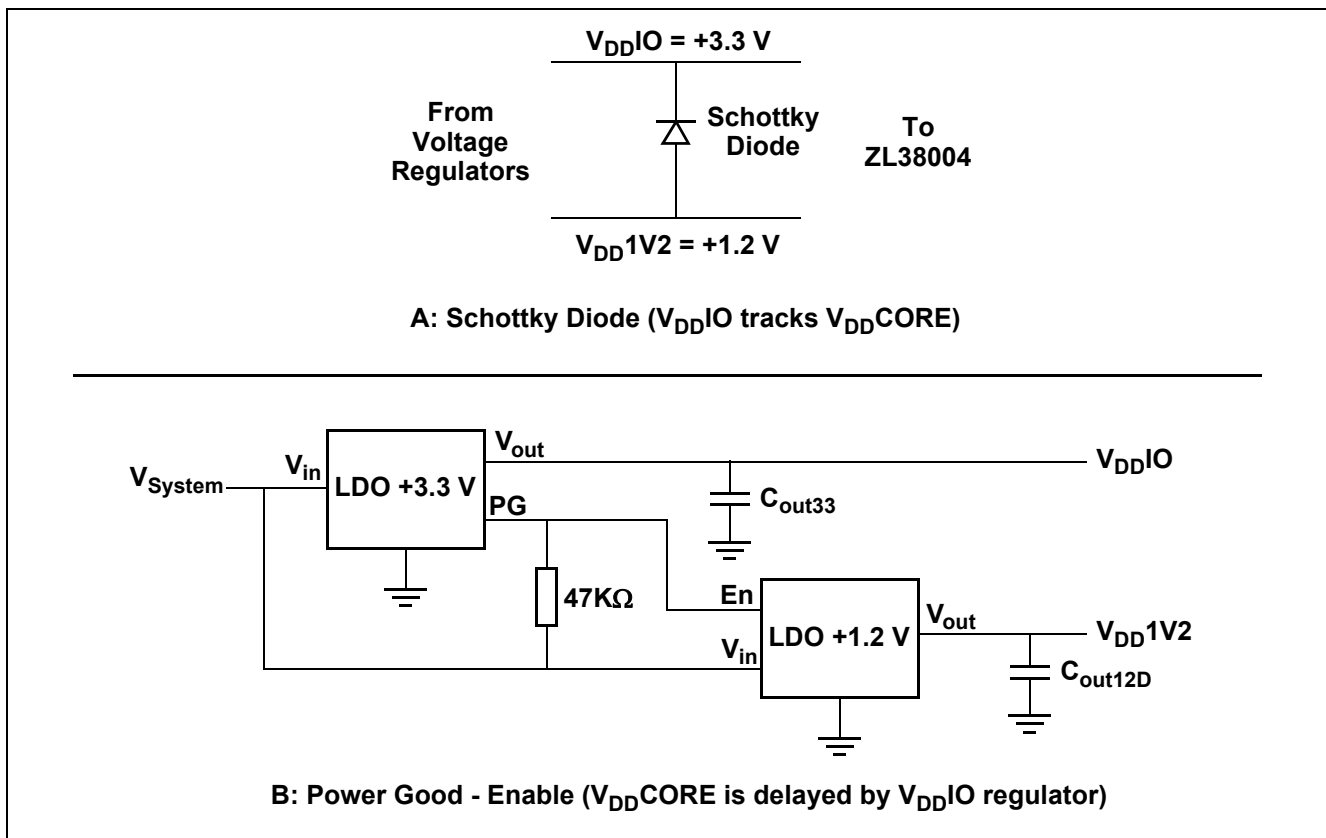
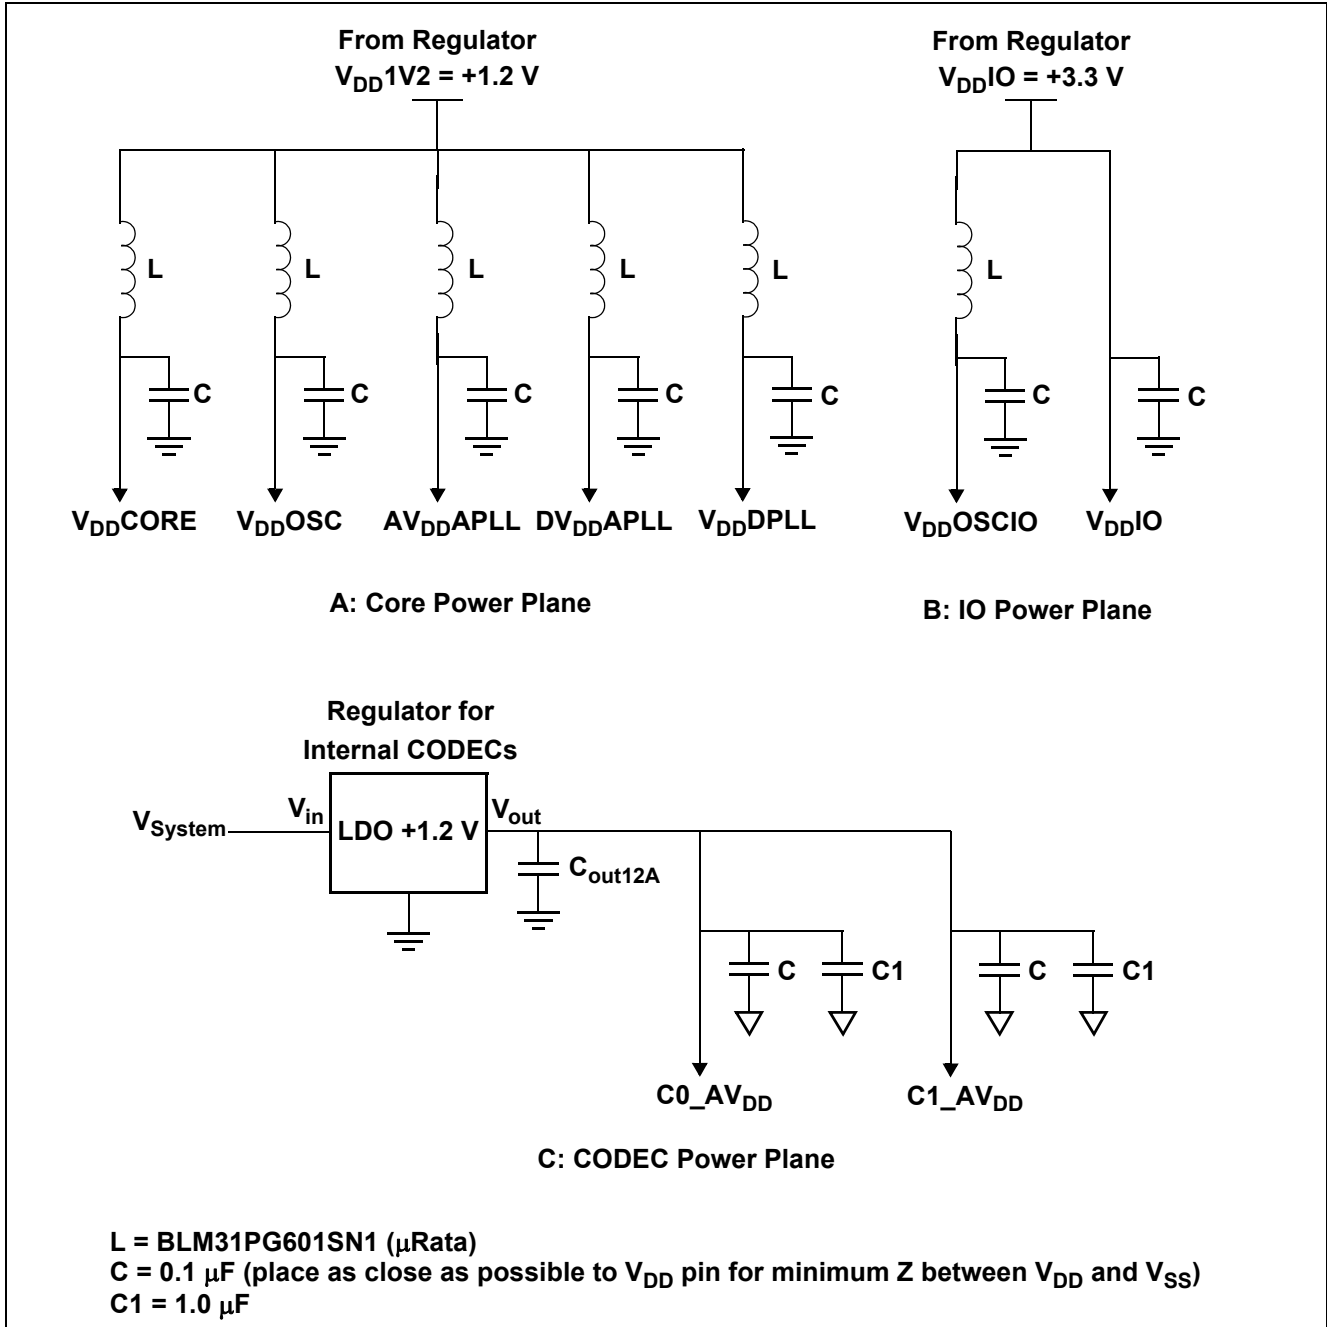

Figure 58 - Latch-Up Prevention Circuit Options
Figure 59 - Power Supply Isolation
The ZL38004 requires external latch-up protection between the V_{DDIO} and V_{DDCORE} supplies. That is, the V_{DDCORE} voltage must not exceed V_{DDIO} voltage during power up and power down. Figure 58 illustrates two options (A & B) to meet this requirement. Option A uses a Schottky diode forward biased between V_{DD1V2} (V_{DDCORE}) and V_{DDIO} . This ensures that the core voltage will never exceed the IO voltage by more than a few hundred millivolts, which is sufficient to meet the ZL38004 latch-up requirement.
An ZL38004 application should be designed with three separate isolated power planes as shown in Figure 59 (i.e., A: Core Power Plane; B: IO Power Plane; and C: CODEC Power Plane). Isolation is provided through separate voltage regulators that supply each plane, see also Figure 58. Each one of the Core supply pins ($V_{DD}CORE$, $V_{DD}OSC$, $AV_{DD}APLL$, $DV_{DD}APLL$ and $V_{DD}DPLL$) are further isolated from each other using inductors (L). The $V_{DD}OSCIO$ of the +3.3 V plane is isolated from the other IO supply pins using an inductor L as well.
The capacitors C are 0.1 μF ceramic decoupling capacitors, which should be placed as close as possible to the V_{DD} pins to minimize impedance from V_{DD} to V_{SS} . Capacitors C1 are 1.0 μF ceramic bypass capacitors. The value of C_{out12A} and additional capacitors from V_{System} to system ground are to be selected based on the system design requirements and selected voltage regulator stability requirements. Figure 59 also shows an example component number and manufacturer for L.
It should be noted that the isolation illustrated in Figure 59 may not be necessary for all applications. It is presented here as good engineering practice and a place to start. Also, the ground symbols used in Figure 59 should not be interpreted to mean that separate analog and digital ground planes are required for the ZL38004. A single (analog and digital) ground plan is adequate for the vast majority of applications. This is the case as long as the ground plane is homogeneous so that relatively large ground return currents are not forced through narrow channels.